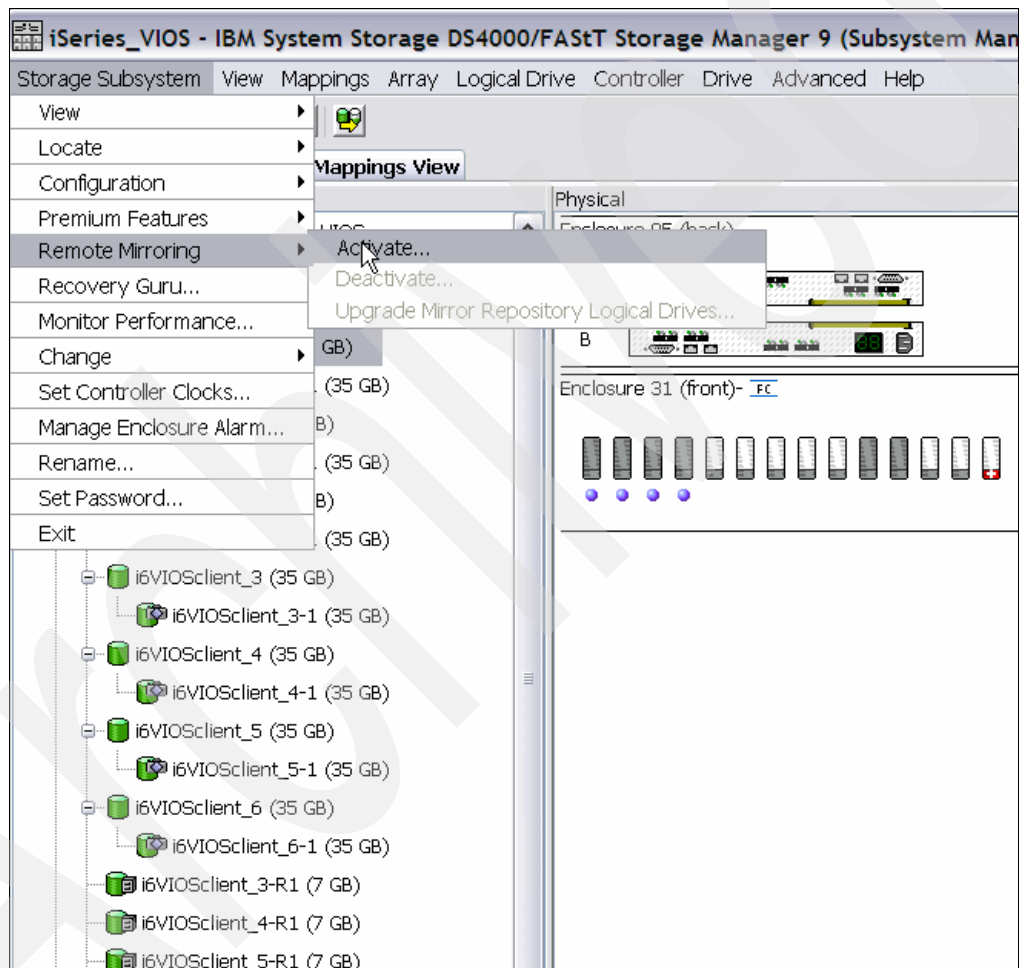

Figure 8-29 Activate remote mirroring
2. Use Storage Manager and double-click the relevant Storage System to open the Subsystem Management window Logical/Physical view. Expand **Storage Subsystem** → **Remote Mirroring** → **Activate**, as shown in Figure 8-29. This starts the wizard to activate the Remote Mirroring feature.